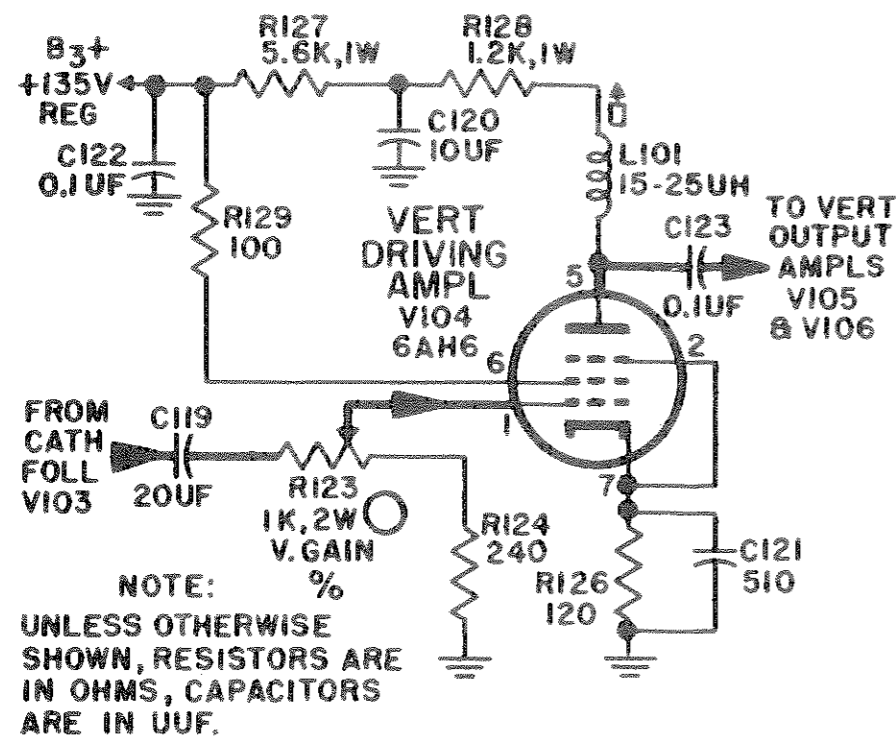

Figure 2-5. Vertical Driving Amplifier, Simplified Schematic Diagram.
(3) VERTICAL DRIVING AMPLIFIER (See figure 2-5) - This stage consists of a frequency compensated RC coupled amplifier, using a pentode type 6AH6, V104, having a gain of approximately 4.5 sufficient to drive the succeeding output amplifier. The low frequency response of V104 is increased by using relatively large values for coupling capacitors C119 and C123 in the input grid, and output plate circuits respectively. The high frequency